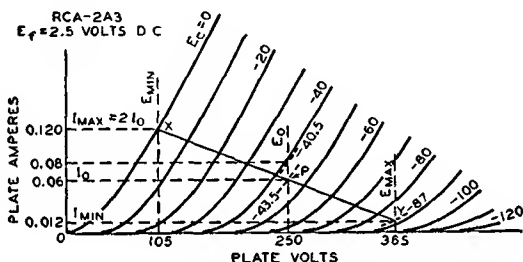

Fig. 19
Calculation of the power output of a triode used as a class A amplifier with either an output transformer or a choke having low dc resistance can be made without serious error from the plate family of curves by assuming a resistance load. The proper plate current, grid bias, optimum load resistance, and the per cent second-harmonic distortion can also be determined. The calculations are made graphically and are illustrated in Fig. 19 for given conditions. The procedure is as follows: (1) Locate the zero-signal bias point P by determining the zero-signal bias E_{c0} from the formula:
Example: Determine the load resistance, power output, and distortion of a triode having an amplification factor of 4.2, a plate-dissipation rating of 15 watts, and plate characteristics curves as shown in Fig. 19. The tube is to be operated at 250 volts on the plate.